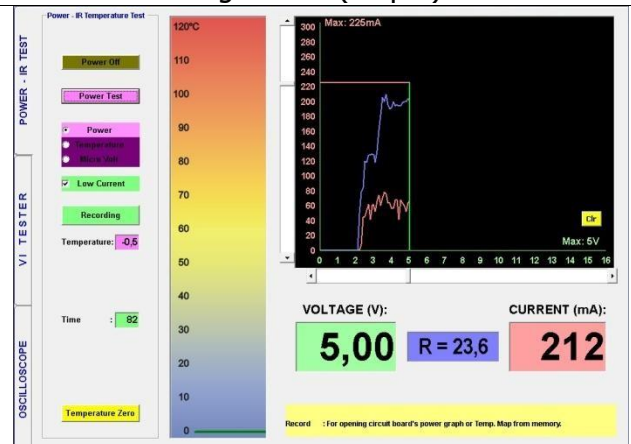

Figure 26: Comparing the DC VI Graph with the Data Saved in the Memory. (Step 4)
- The "Power Test" button is clicked to generate the DC VI Graph of the defective or suspect board and is compared with the recorded data. (Figure 26)